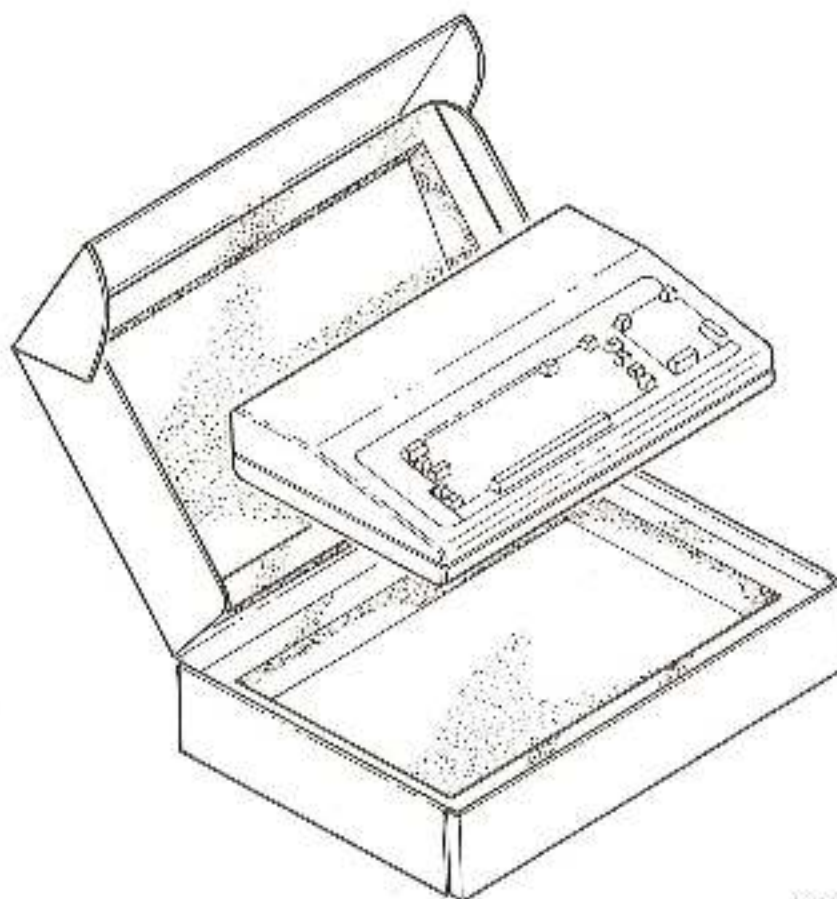

FIGURE 2-2 GIGI Terminal Shipping Container
Figure 2-2 shows the packaging used with the GIGI terminal. Use the following procedure to unpack the terminal from the shipping carton.
4. Repack the terminal in the shipping carton (Figure 2-2). Include the power cord and video cable in the shipping carton.